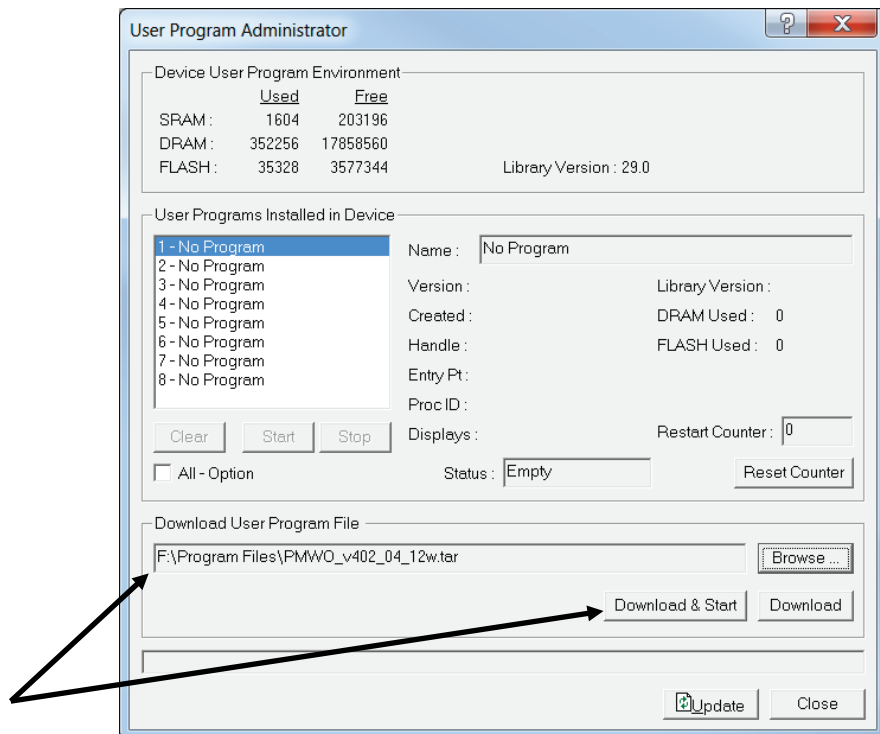

Figure 8. User Program Administrator
7. Click **Open** to select the program file. The User Program Administrator screen displays. As shown in Figure 8, note that the Download User Program File frame identifies the selected program and that the **Download & Start** button is active: